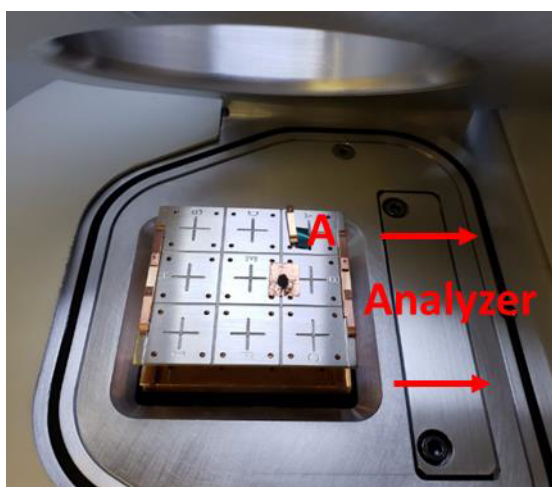

Figure 4: Sample holder in the entry lock with the “A” at the top right, which is pointing towards the analyzer.
3. The sample holder can only be positioned in one direction in the entry lock. The “A” on the sample plate should be pointing towards the analyzing chamber (**Figure 4**).